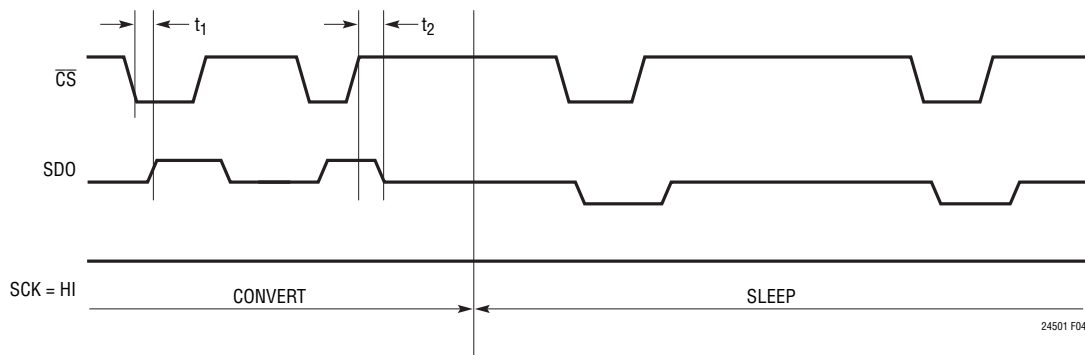

Figure 4. Conversion Status Monitoring Mode
**Note 8:** See Figure 4.
For certain applications, the user may wish to monitor the LTC2450-1 conversion status. This can be achieved by holding SCK HIGH during the conversion cycle. In this condition, whenever the  $\overline{CS}$  input pin is pulled low ( $\overline{CS} = \text{LOW}$ ), the SDO output pin will provide an indication of the conversion status. SDO = HIGH is an indication of a conversion cycle in progress while SDO = LOW is an indication of a completed conversion cycle. An example of such a sequence is shown in Figure 4.